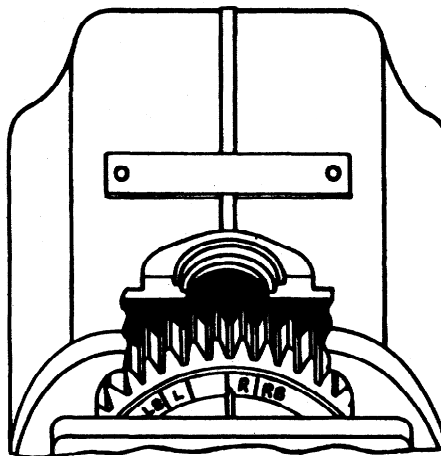

Figure 3. Alignment of Timing Marks on Distributor Gear — 6 Cylinder, Single Breaker, Right Hand Rotation
- b. "6" Cylinder, single breaker types — The timing rib on the distributor block MUST lie between the "L" and "LB" or the "R" and "RB" marks on the gear, and should be nearer to the "L" or "R" mark, depending on magneto rotation. (See figure 3)